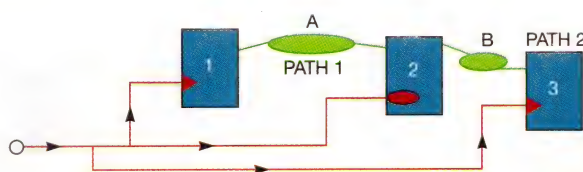

Figure 2 Path 1 goes from a positive-triggered register (1) to a negative-level latch (2). Path 2 goes from the latch to a positive-edge-triggered register (3).
A sample circuit has two timing paths (Figure 2). Path 1 goes from a positive-triggered register (1) to a negative-level latch (2). Path 2 goes from the latch to a positive-edge-triggered register (3). In the figure, borrowing compensates